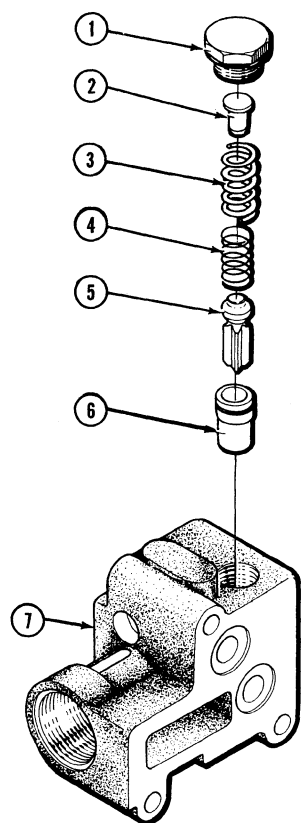

Figure 31
Check Valve and Bushing (Figure 31)
3. Examine the check valve, Figure 31, for unevenness at the point end. Check for scratches in the sliding parts. Correct by lapping or replacing.